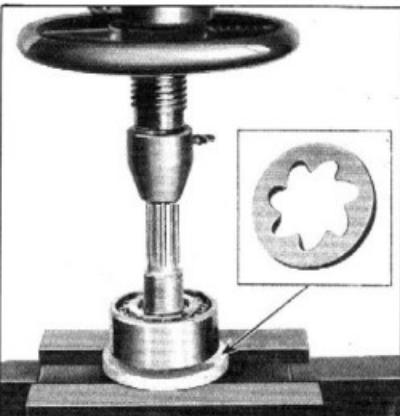

Fig. 23—Removing Front Pinion Bearing
3. Install the front pinion bearing remover J-1439 for 6-tooth pinions, J 1440 for 7-tooth pinions, over the pinion teeth and against the inner race of the double row bearing. Then press the bearing off the pinion shaft, Fig. 23.